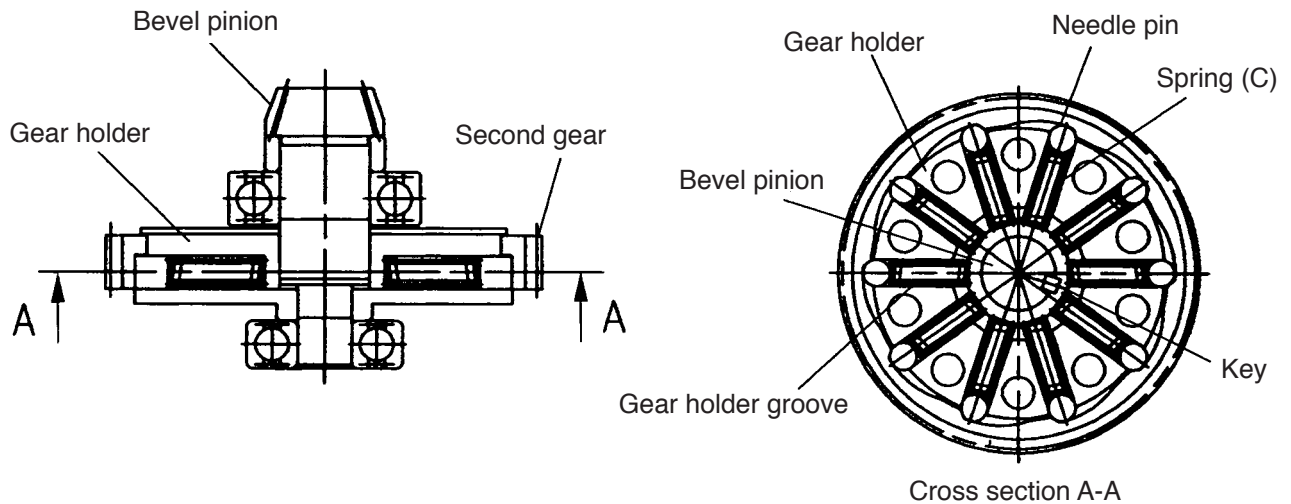

Fig. 8
The slip clutch mechanism is described below with reference to Fig. 8. The bevel pinion and the gear holder are coupled together by the key and press-fitting. Spring (C) and needle pins are housed in elongated grooves of the gear holder. The needle pin is pressed against the inner face of the second gear by spring (C) to allow idle rotation of the second gear relative to the gear holder. When an excess torque is exerted on the bevel pinion shaft, the needle pin is raised upon the projection of the second gear against the load of spring (C) to allow idle rotation of the second gear. With the arrangement, the clutch slips when an excessive torque is applied to the working tool as when the drill bit contacts steel bar/wire in the concrete, protecting the operator from unexpected motion of the side handle.